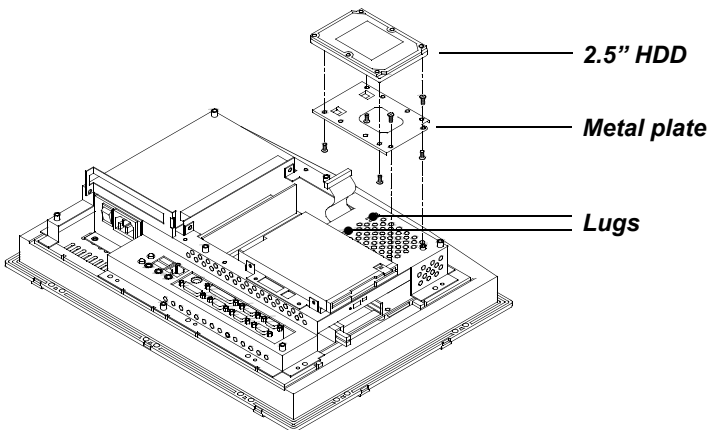

Figure 4.2: Installing the primary 2.5" HDD
2. There is a metal plate which holds the HDD to the upper right-hand side of the metal shielding case. (See Fig. 4-2.) Remove the two screws on the metal plate.